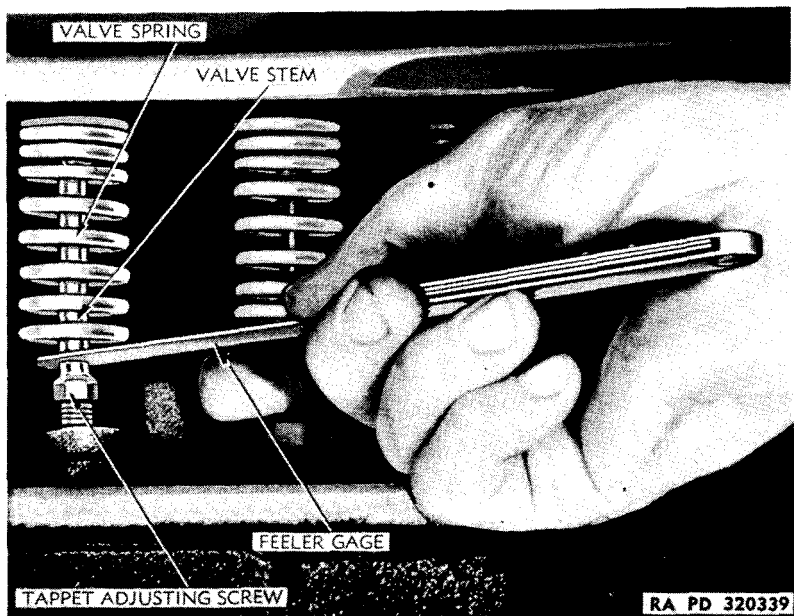

Figure 38—Checking Valve Tappet Clearance, using thickness gage (41-G-400)
58. VALVE ADJUSTMENT (fig. 38).